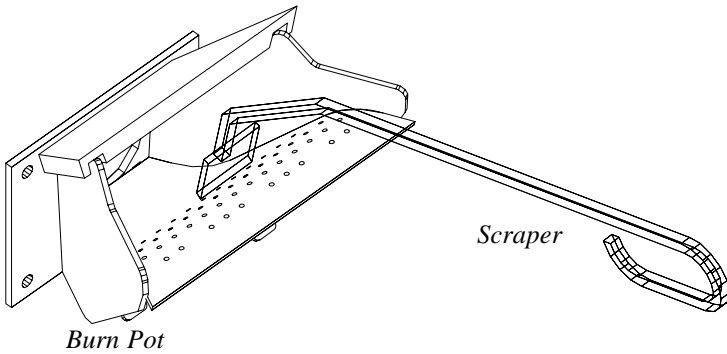

Fig. 14
- * Clean burn pot (scrape carbon loose with scraper), fig. 14. If the fire is pushing out more in the middle of the burnpot than before or pushing partially burned pellets off the edge, these are indications that the burnpot needs cleaned.